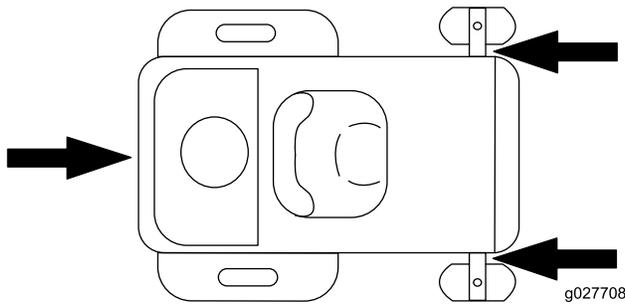

Figure 15
- Tie down the machine near the front caster wheels and the rear bumper (Figure 15).